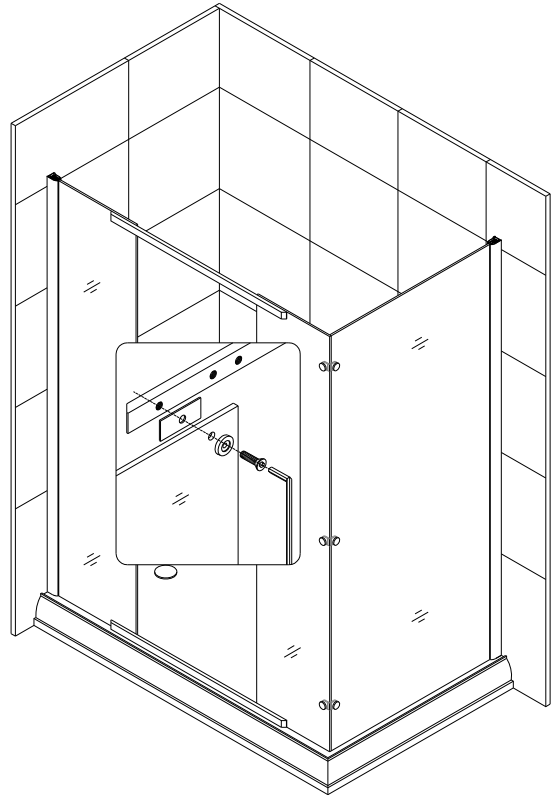

Fig 6
5. Locate the **Pivot bar (10)**; then locate the parts (20, 22, 23) to fasten the pivot bar to the stationary glass. Use the clear rubber **Gasket (20)** prevent from glass to metal connection. Secure the stationary glass panels with the **Washer (23)** using the **Flat head bolts M8x20 (22)**. See Fig 6 for details.